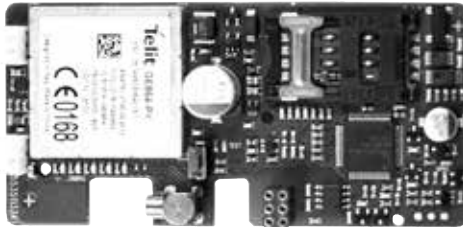

Figure 1
- 2 Insert the GSM module into module area 2 [see Figure 1, page 3].